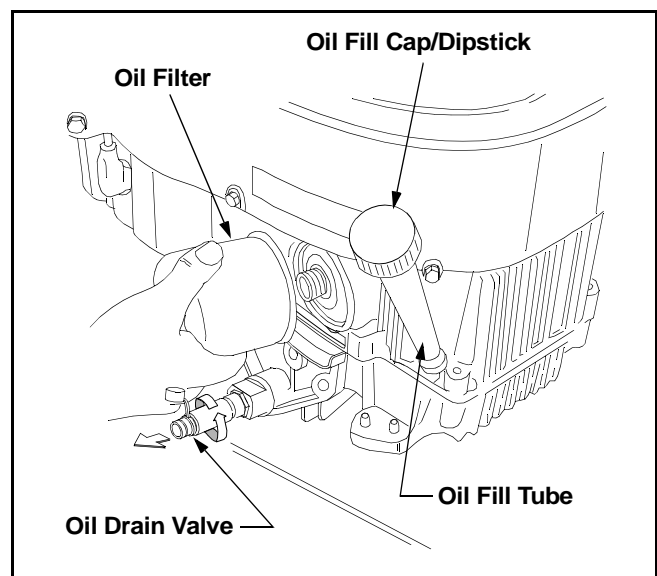

Figure 18
- Clean the area around the oil fill cap/dipstick to prevent debris from entering the crankcase. Refer to Figure 18.
- Pop open the protective cap on the end of the oil drain valve to expose the drain port. See Figure 18.
- Push the oil drain valve in slightly, then rotate counterclockwise and pull outward to begin draining oil. See Figure 18.